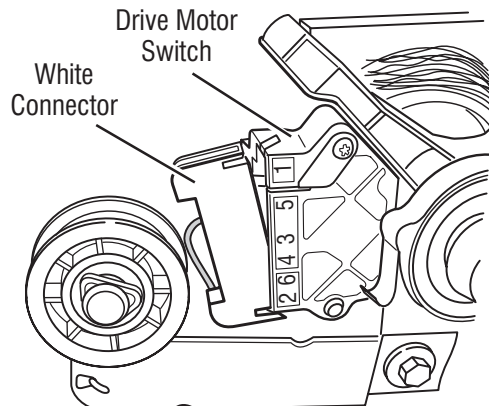

Figure 17 - Remove white connector.
8. Remove the white connector from the drive motor switch. See figure 17.